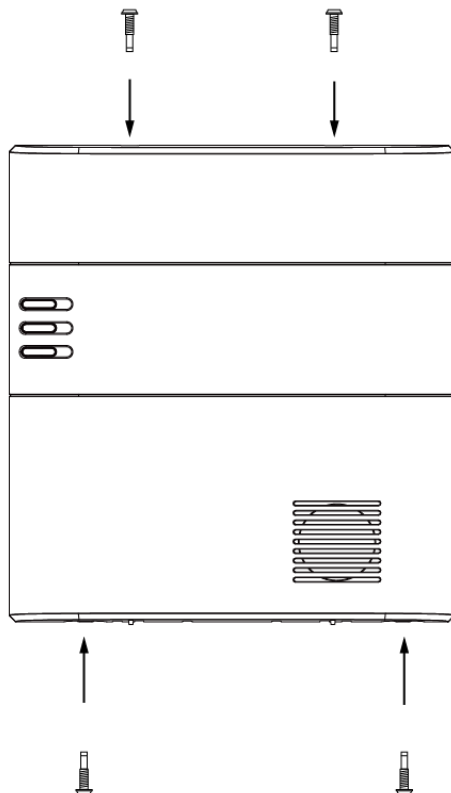

Figure 3
- I. Replace the back cover, wire the cable through the side hole and tighten the 4 fixing screws. (figure 3)